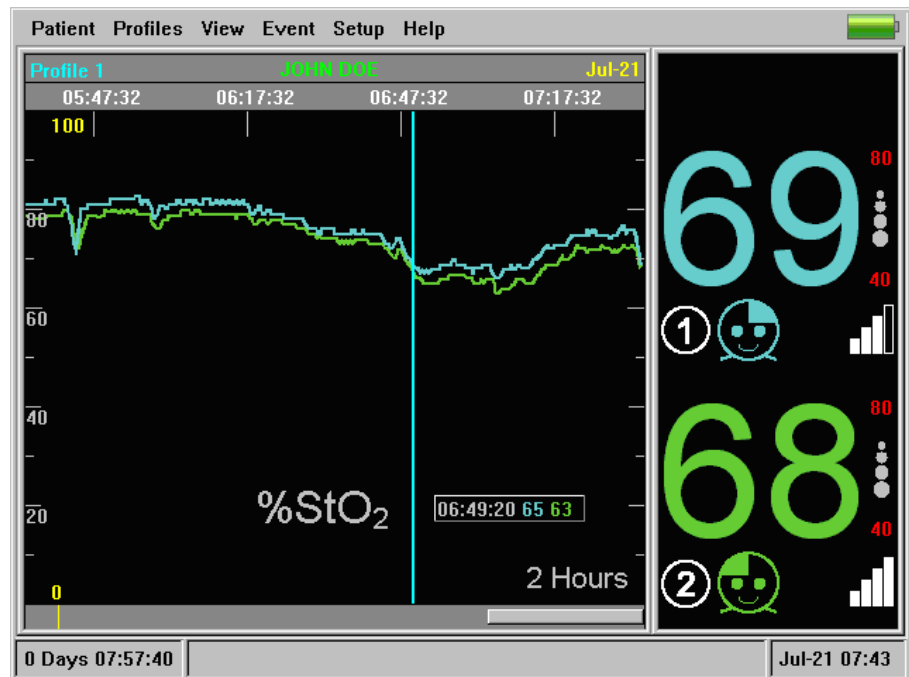

Figure 36: Vertical Position of Event
- 1 Turn the rotary knob to position the vertical line correctly on the trace (see Figure 36 below).